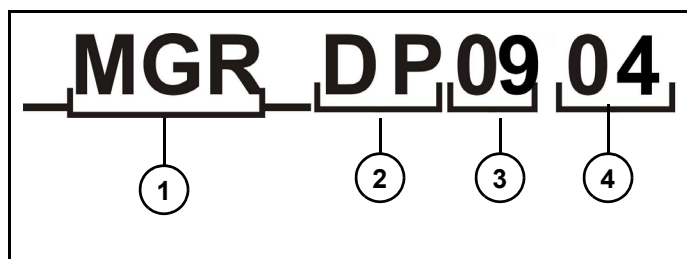

Figure 1
- Month of release (4) (Figure 1).